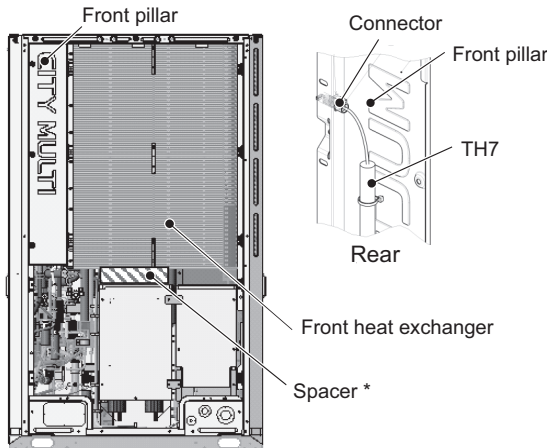

Figure 12
- (14) Remove the front pillar by unscrewing the 7 screws. (See Figure 12.)
- (15) Disconnect the TH7 sensor holder from the front pillar. (See Figure 12 Rear.)